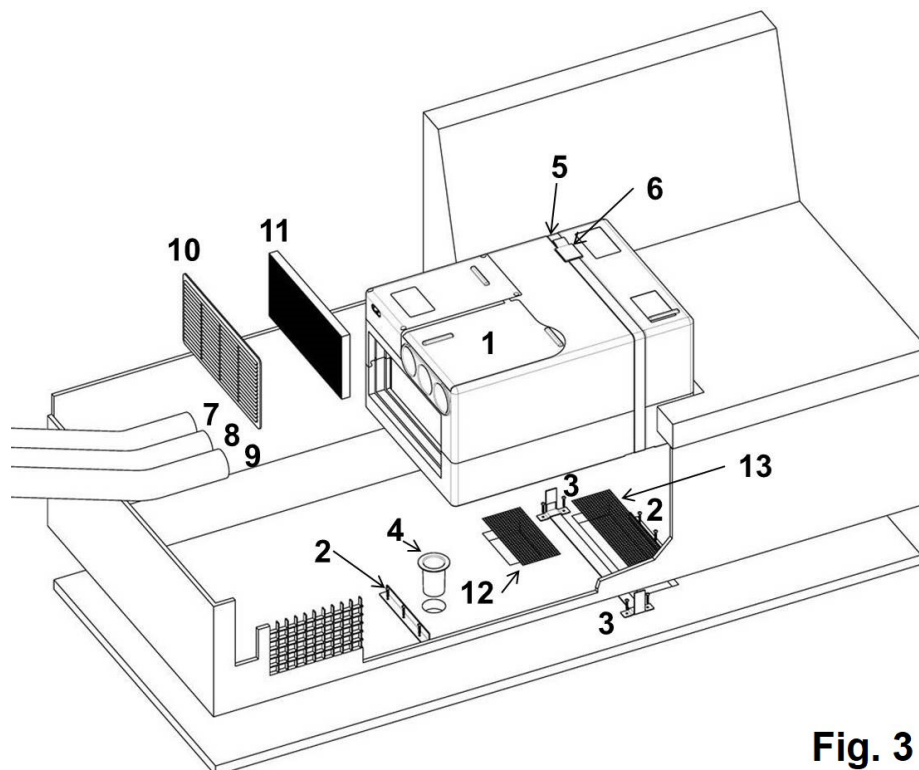

Fig. 3
Secure air conditioning system with housing strap (5). Ensure that the housing strap is in the provided recesses on the shell. Guide housing strap (5) through buckle (6) as shown in Fig. 3 and tighten.